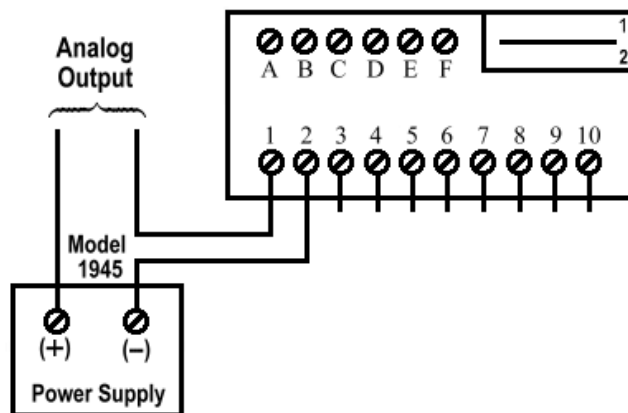

Figure 1.3 Field Wiring Diagram with 4-20mA Output
- 4) Models with 4-20 mA analog output options must have an EXTERNAL LOOP POWER SOURCE of 10.0 VDC minimum, 24.0 VDC maximum, in series with the current loop. The INCON Model 1945 Power Supply is recommended for these installations, (See Figure 1.3).